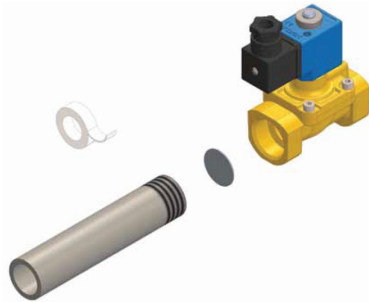

Figure 17. Using of filter and PTFE band
**!** Any bending or twisting should not be found with the cable connected to the connector in order to avoid any deficits resulting from any loose contact or short-circuit due to any crush. The cable should be uprights as shown in the Figure 17 a. In addition, the twists in the connector input may allow humidity to penetrate into the connector. In order to prevent humidity or water to leak into the socket, the diameter of the cable should be in a size that provides sealing.